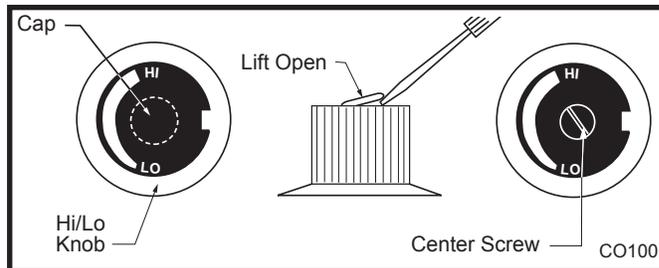

Fig. 52 Remove center screw from Hi-Lo knob.
5. Remove cap from HI/Lo knob. This can be accomplished by lifting the plastic cap off the screws. (Fig. 52)
6. Remove the screw from center of HI/Lo knob with small screwdriver turnign counterclockwise. (Fig. 52)